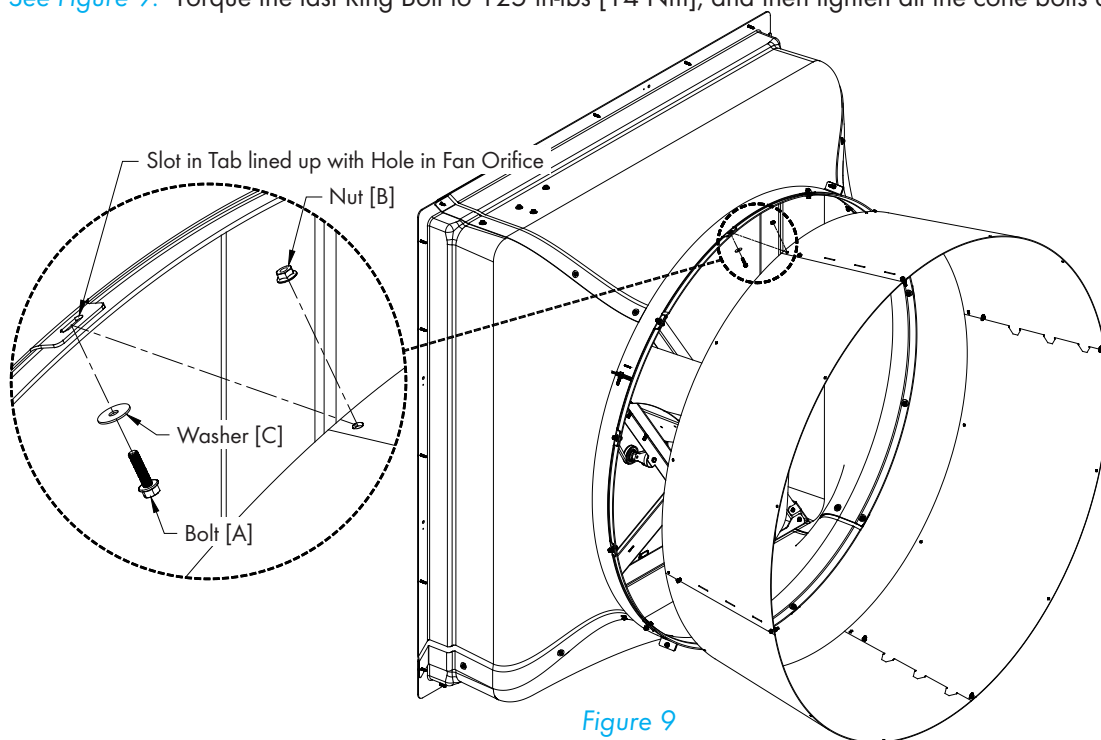

Figure 9
Make sure the slots in the tabs of the Reinforcing Ring still line up with holes in the orifice of the fan. Install cone onto fan over the tabs of the Reinforcing Ring by putting cone over fan orifice and line up outer holes of cone with holes in fan orifice and tab slots. Fasten cone to fan orifice using (12) Bolt [A], Washer [C] and Nut [B] with bolt and washer on inside of fan orifice and nut on outside of cone with the tabs between orifice and cone. See Figure 9. Torque the last Ring Bolt to 125 in-lbs [14 Nm], and then tighten all the cone bolts at this time.